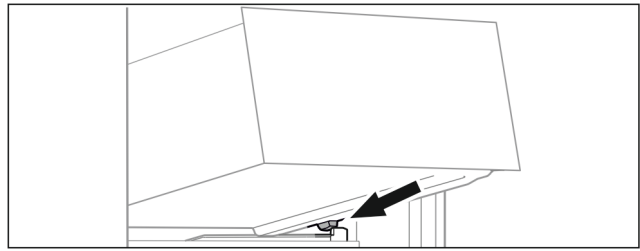

Fig. 83
- ▶ Place drawer at an angle behind the stoppers on the moulded rib. (see Fig. 83)